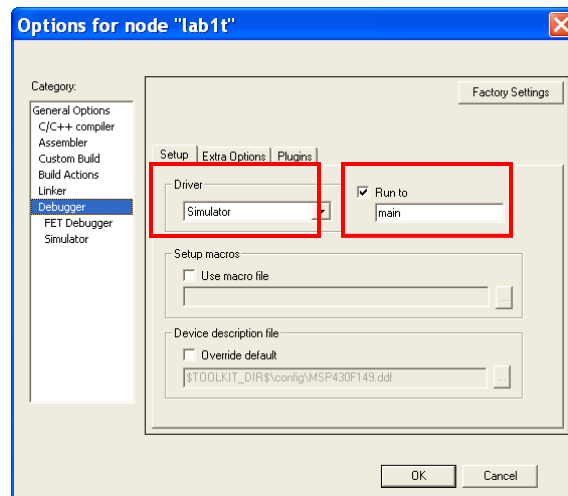

Figure 9. Setting the debugger options.
Step 1. Choose *Project>Options* and then the *Debugger* category (Figure 9). On the *Setup* page, make sure that you have chosen *Simulator* from the *Driver* drop-down list and that *Run to main* is selected. Click OK.